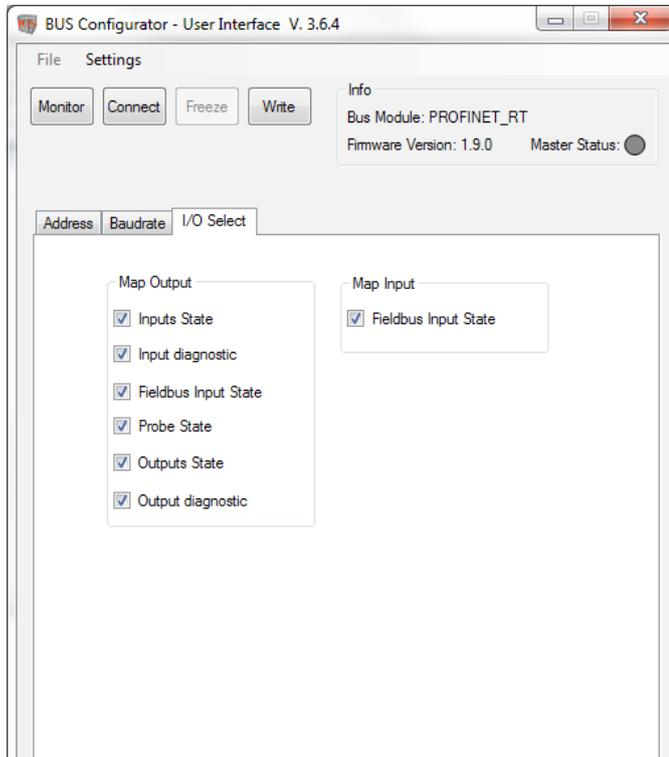

Figure 3: I/O Select, BUS Configurator
2. Open BUS Configurator and select the *I/O Select* tab. Select the check boxes for all fieldbus inputs and outputs (Figure 3).